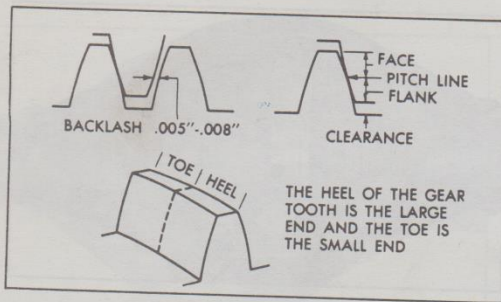

Fig. 23—Gear Tooth Nomenclature
5. Inspect the contact pattern produced by the above procedure. Figure 23 shows the terminology used in analyzing contact patterns.